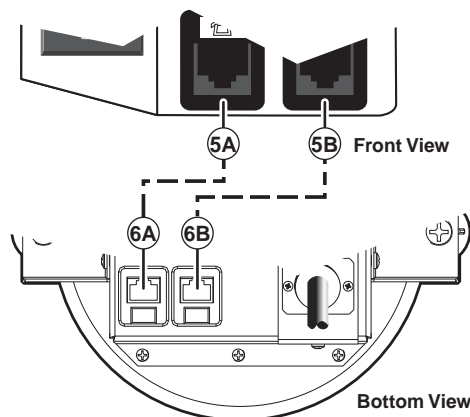

Figure 2-8 — Configuration of RJ-45 connectors
Ensure that the bottom RJ-45 connections match up with the front panel RJ-45 connector locations (figure 2-8). For example, match the front panel RJ-45 (CAT 6) network, data, or communications connection ⑤A with the underside RJ-45 connector ⑥A, match ⑤B with ⑥B and so forth.